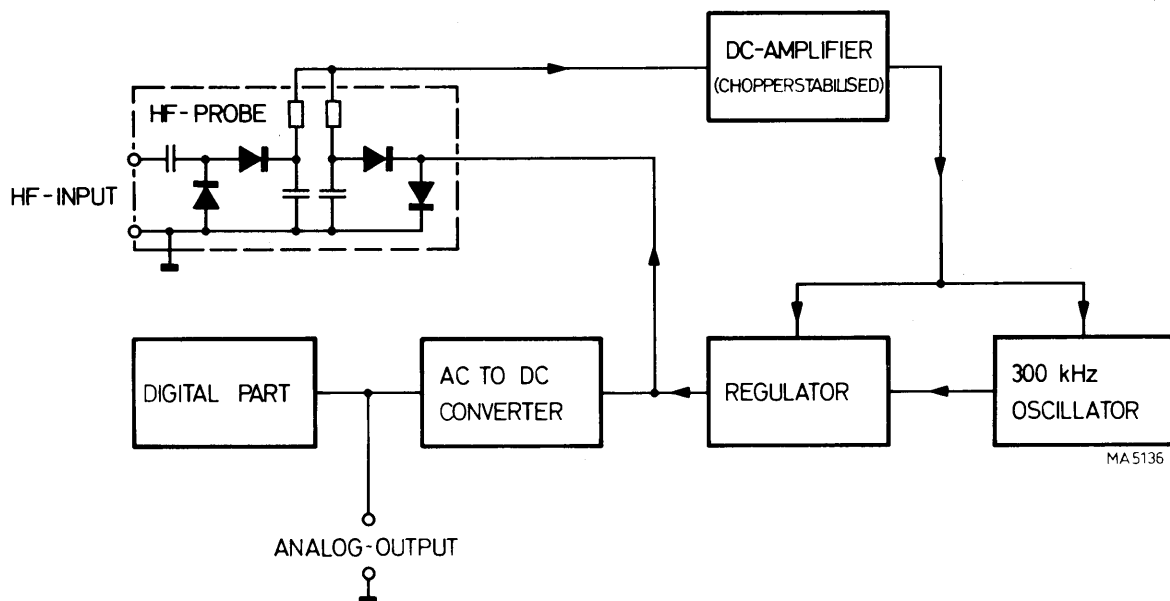

Fig. 8. Circuit for H.F. measurements
3. H.F. voltage measurements (Fig. 8)